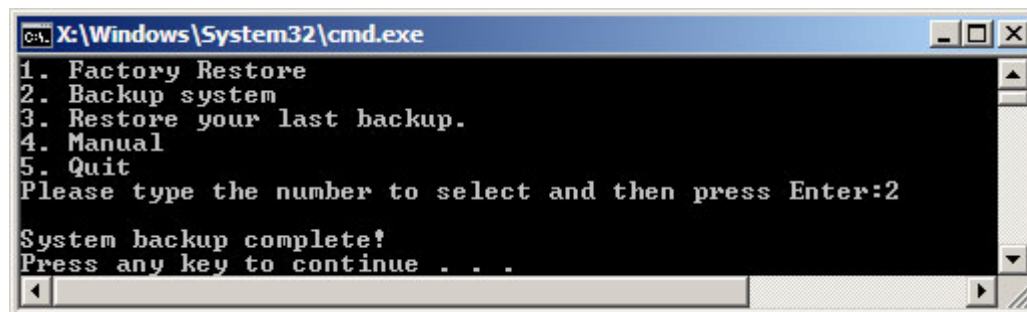

Figure A-30: System Backup Complete Window
Step 12: The screen is shown as in **Figure A-30** when system backup is completed.